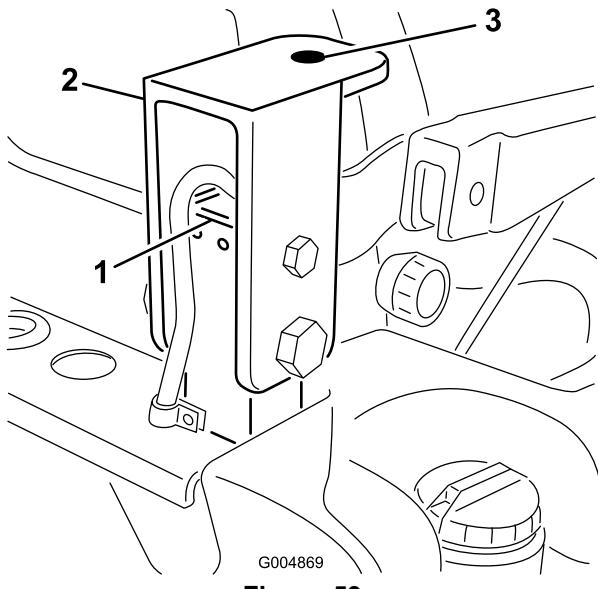

Figure 59
2. Loosely install a cab mount support to each ROPS post with two bolts (1/2 x 3-1/2 inches), two nuts (1/2 inch), two bolts (3/4 x 3-1/2 inch) and two nuts (3/4 inch) (Figure 59). Make sure the top plate hole is positioned forward. Do not tighten bolts at this time.